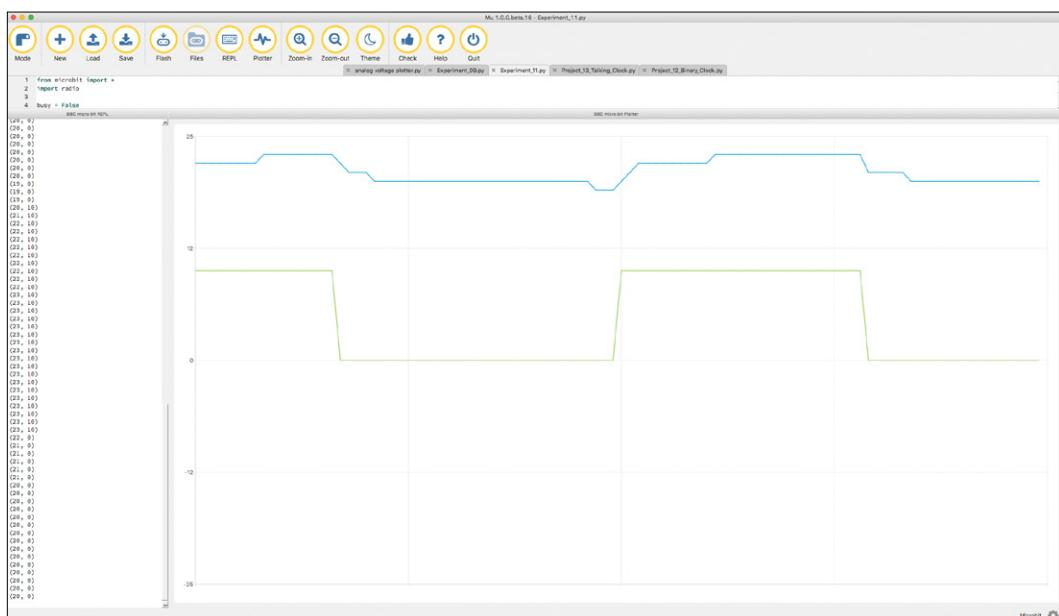

Figure 9-1: Plotting temperature readings and processor activity
2. Open both the REPL and Plotter views of Mu and press **Reset** on the micro:bit to start the reading process. A new temperature reading, and an indication as to whether the micro:bit has been busy or idle, are logged to the Plotter and REPL every 20 seconds. The busy/idle status of the micro:bit flips every 10 minutes. Figure 9-1 shows the result of logging the data for 40 minutes.
As you can see from Figure 9-1, when the micro:bit is in busy mode, the reported temperature rises by about 3 degrees C. When it goes back to idle mode, the temperature drops. Note that the temperature in the room, as measured by a separate thermometer, remained at 20.0 degrees C throughout the experiment.
To easily see when the processor is busy on the same plot as the temperature (Figure 9-1), we multiply the `True` or `False` Boolean value of `busy` by 10. Python allows us to do this! Rather than reporting an error, Python interprets `False` as 0 and `True` as 1. Because Python treats the Boolean values as numbers, it lets us multiply them. Then, instead of being either 0 or 1, the value is plotted as either 0 or 10.